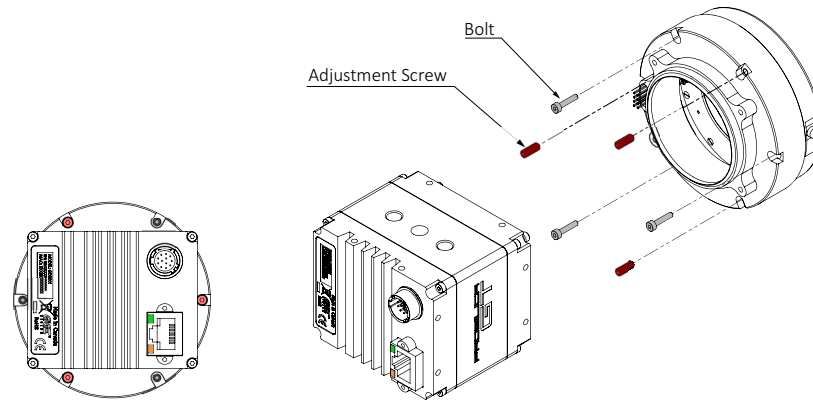

Figure 71: Back view (left) and exploded view (right) of Prosilica GT1930L camera assembly showing the adjustment screws and bolts in the EF-Mount
1. Using a compatible lens, set the lens to infinity and image on a target (10 to 15 m). Target should highlight focus levels at center image and at the corners of the image, as shown in figure 71. A lens with a long focal length, or adjustable zoom lens, will allow more precision for this operation and reduce the overall size of your target.
Adjust the three tilt adjustment screws, as indicated in figure 71, until all targets are in focus.